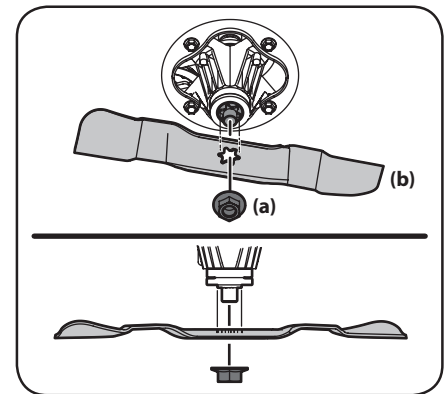

Figure 4-8
- Remove the hex flange nuts (a) that secures the blades to the spindle assembly. See Figure 4-8.